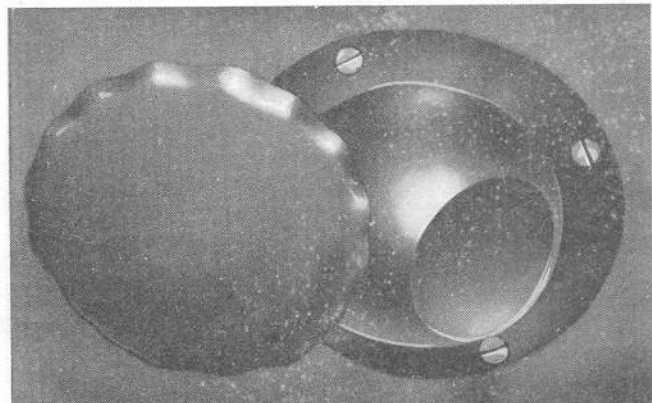

Figure 23—Cold Air Valve Control
a. COLD AIR.—Controls for cold air supply to pilots' compartment and cabin are located on side walls next to seats in pilots' compartment (figure 23). Screw valve handles inboard to increase cold air supply. Outlets in front of valve handles may be turned to control supply and direction of cold air flow into pilots' compartment.